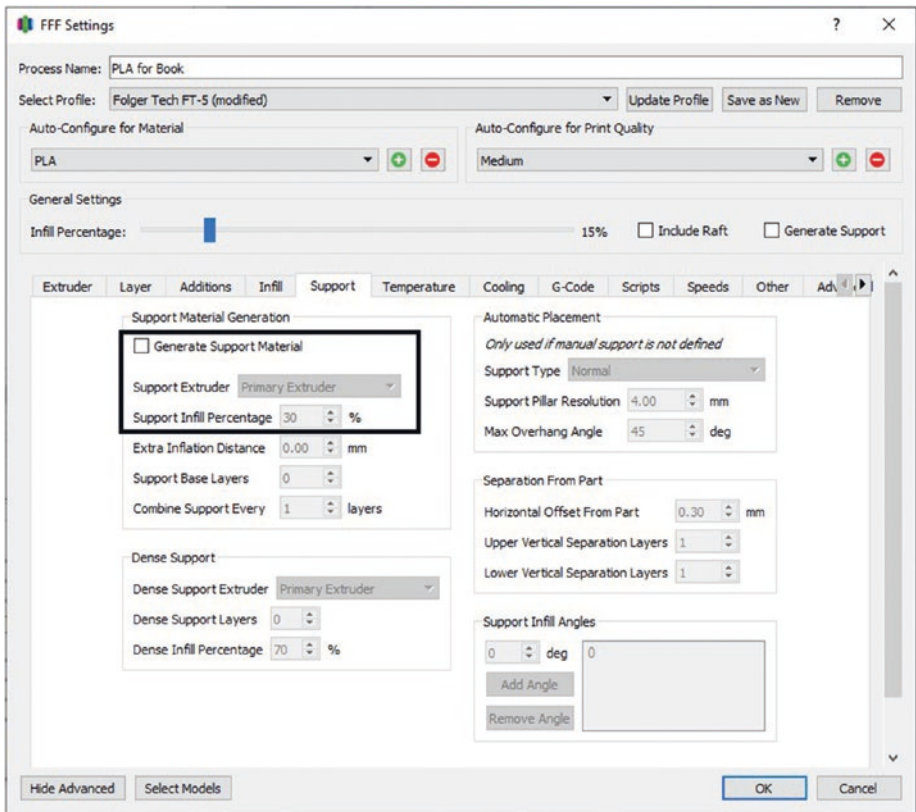

Figure 4-23. *Support tab*
5. Tab 5: Support (see Figure 4-23)